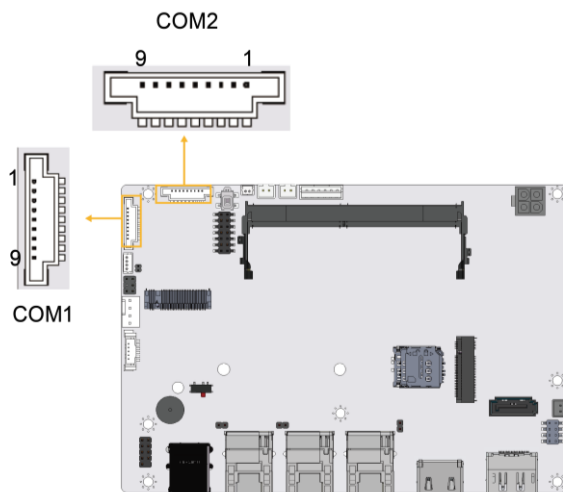

Figure 3-28: RS-232 Serial Port Connector Location
- CN Location:** See **Figure 3-28**